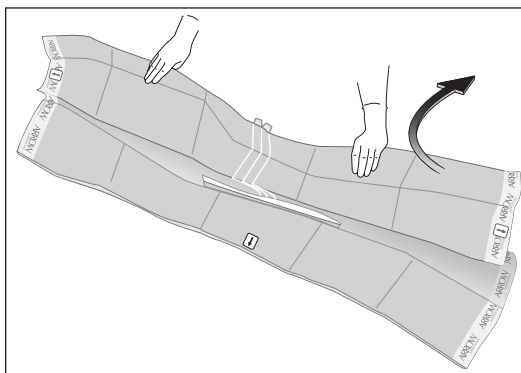

Figure 13
- Unfold towards head (refer to Figure 13).